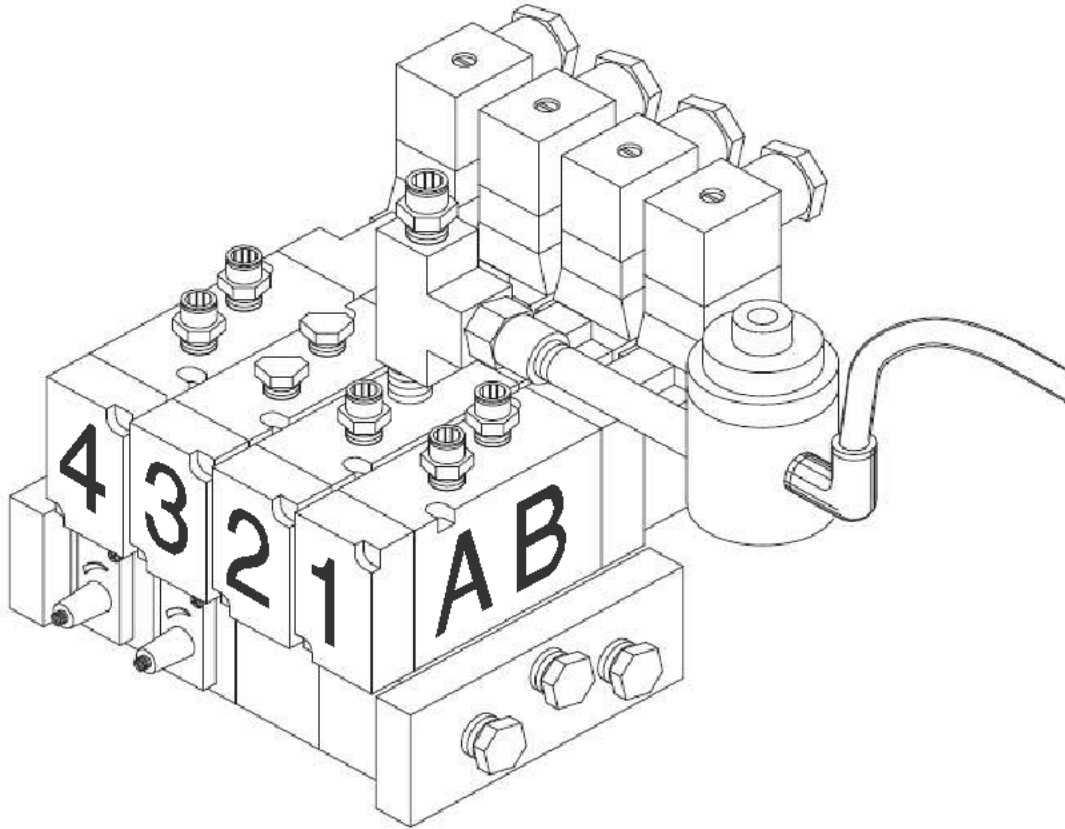

FIGURE 26
REFER TO FIGURE 26 BELOW.
- C. Loose connections in the air lines: All of the air lines on this machine are the snap in connector type. To remove the hose, push in on the slide connector while pulling out on the hose. To reconnect the hose, simply push the hose into the connector as far as it will go. If there are any questions about where the hoses connect, REFER TO FIGURE 26 ON THE PRECEDING PAGE.**